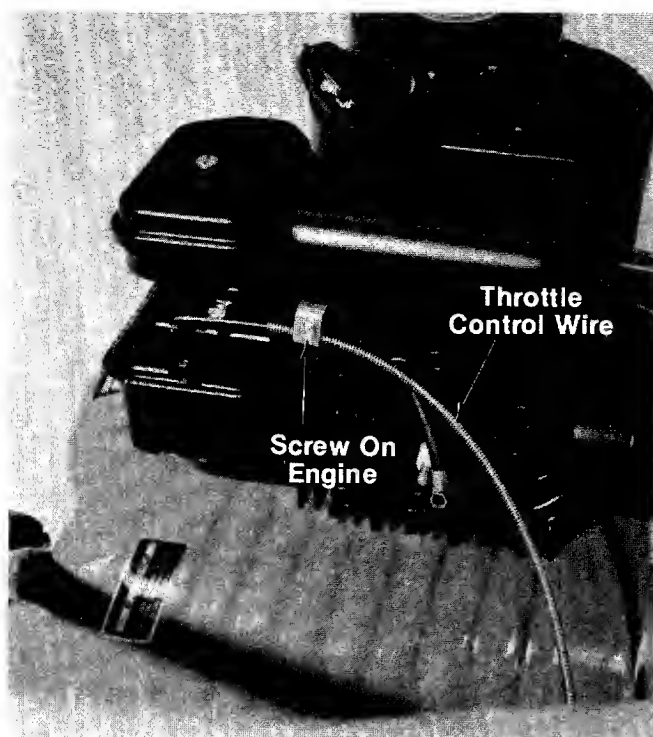

FIGURE 3.
1. Loosen, but do not remove, screw securing throttle control wire assembly at engine. See figure 3.